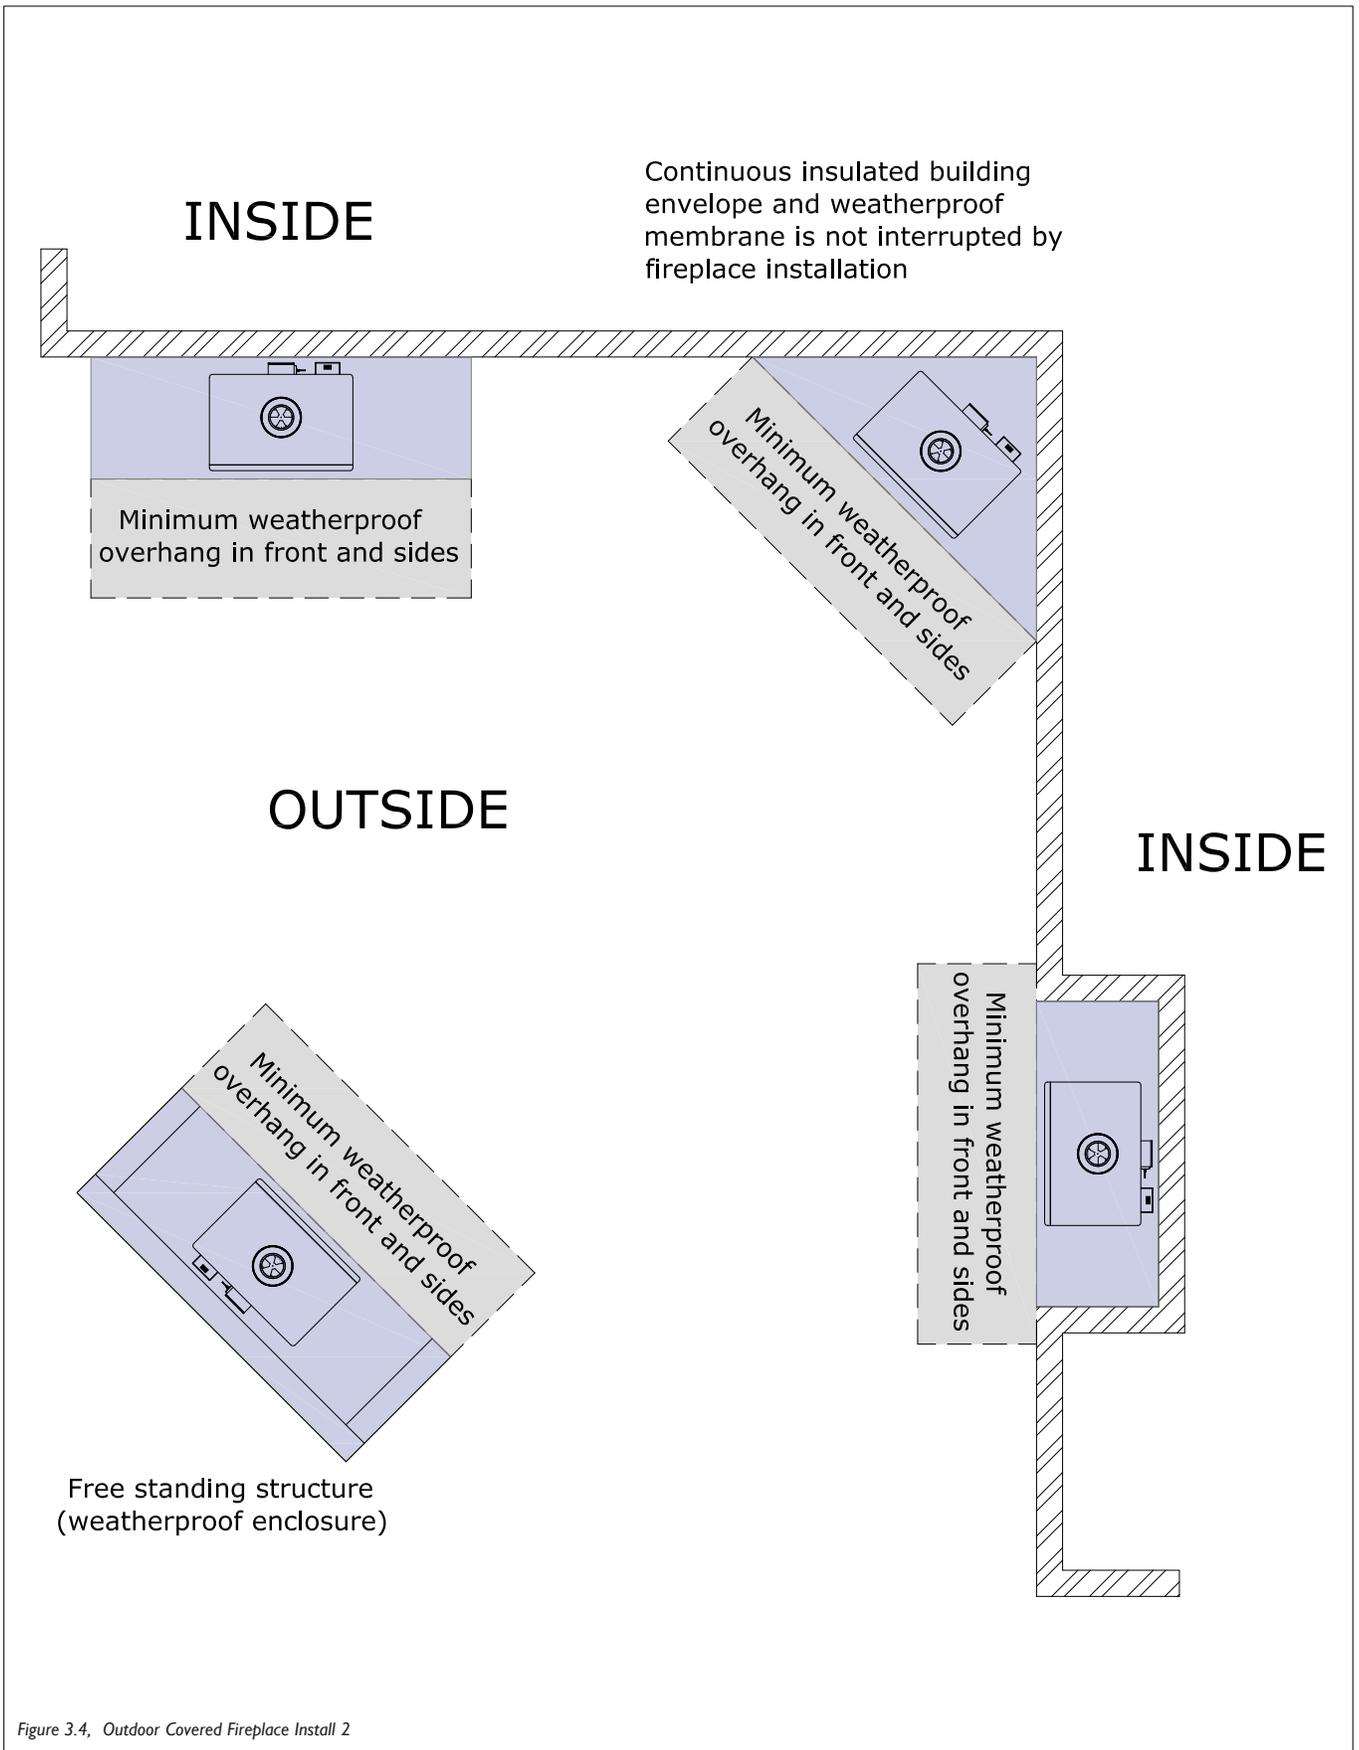

Figure 3.4, Outdoor Covered Fireplace Install 2
- The continuous insulated building envelope and weatherproof membrane is not to be interrupted by fireplace installation. See Figure 3.4 on the following page.